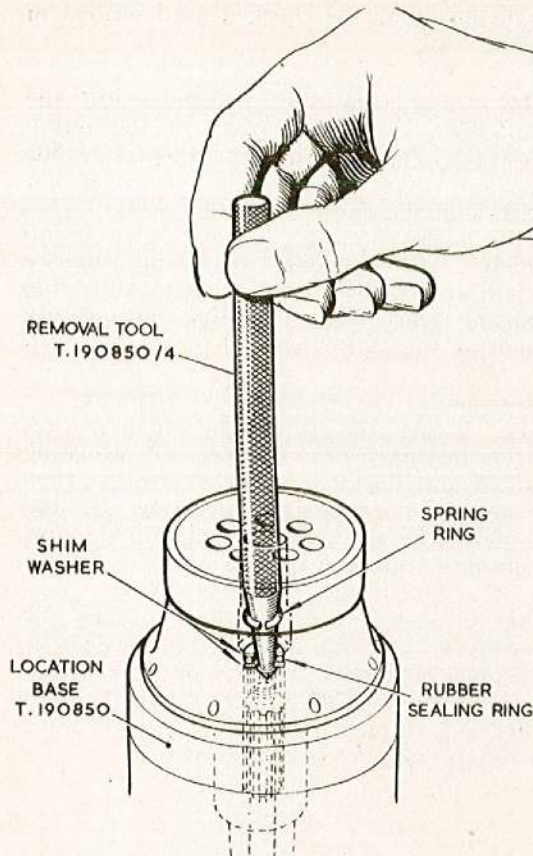

Fig. 6. Removing the drive shaft locking and sealing rings
(1) Position the locating base, with a tuftol locating ring on the baseplate of the press, then lower the rotor, drive shaft downwards, on to the base and place the protective cap over the rotor port insert face.
(2) Fit the drift and sleeve into the axial hole in the rotor. Insert the brass punch into the hand press and lower it on to the drift in the rotor. Apply sufficient pressure to start movement of the drive shaft and free the rubber seal, shim washers and spring ring.
(3) Lift the press, withdraw the drift and using the tool T.190850/4 extract the spring ring, shim washers and rubber seal (fig. 6).
(4) Position the rotor on the press as in sub-para. (1), lower the drift and sleeve into the axial hole in the rotor and carefully press the drive shaft fully out of the rotor.